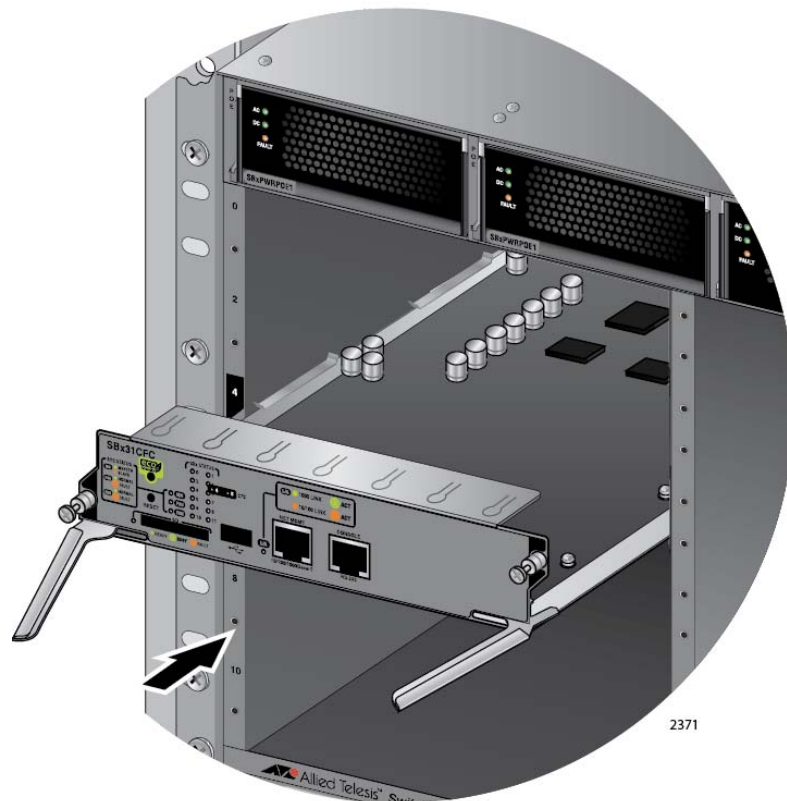

Figure 74. Inserting the AT-SBx31CFC Card in the Chassis Slot
6. Insert the card into the slot until you feel it make contact with the connector on the chassis backplane, as shown in Figure 74 on page 117.